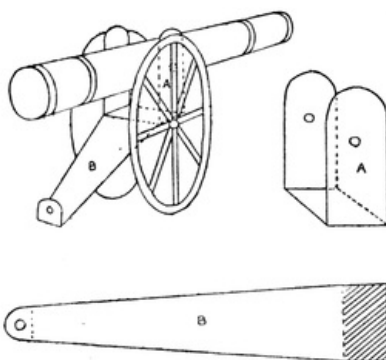

FIG. 92
**A Field Gun and Limber.** The gun in Fig. 92 is mounted somewhat differently. A is one-third of a match-box cover, with one narrow side cut away, covered with dark grey paper; two holes are made in it opposite each other; the gun has a match or piece of cane passed through it, and the ends of the match or cane pass through the holes in A.